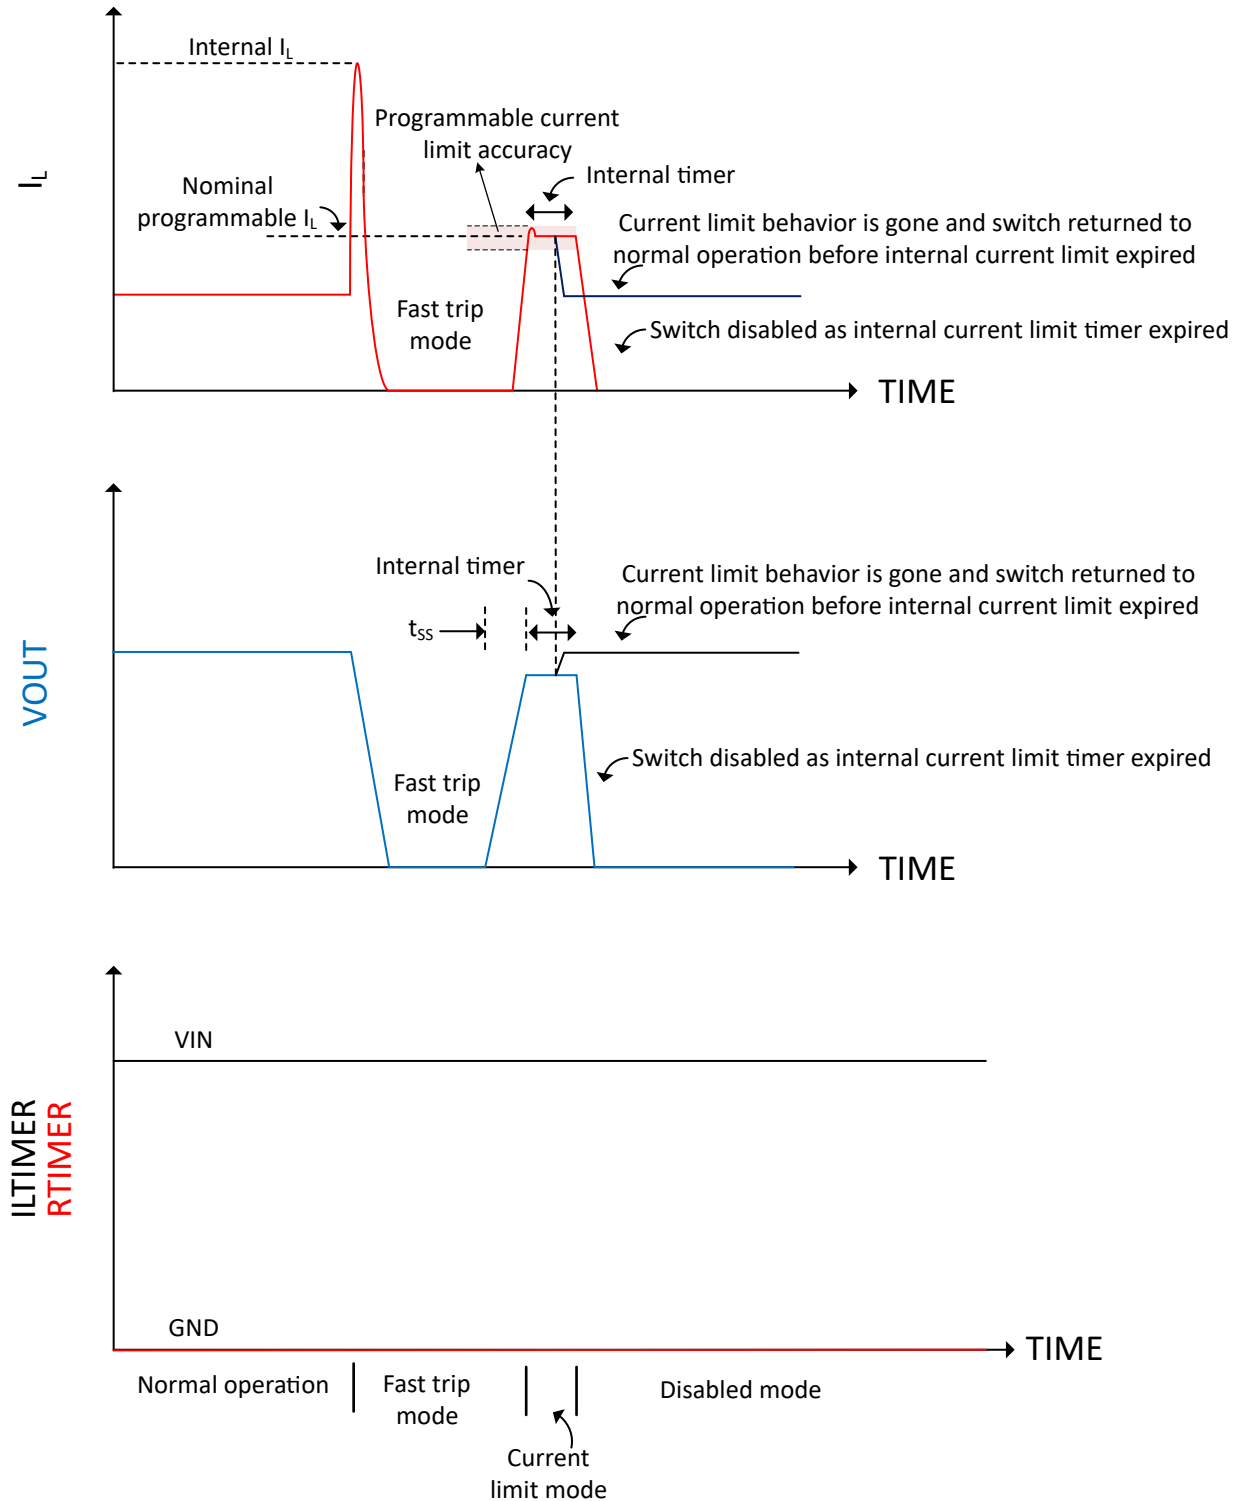

Figure 8-5. Programmable Fault Timer Operation Using the Internal Current Limit Timer and Disabling the Retry Mode
- Figure 8-5: Hard short event using the internal current limit timer and disabling retry timer.
The behavior of the ILTIMER and RTIMER pins for the internal timer conditions with the retry mode disabled is shown in Figure 8-5.